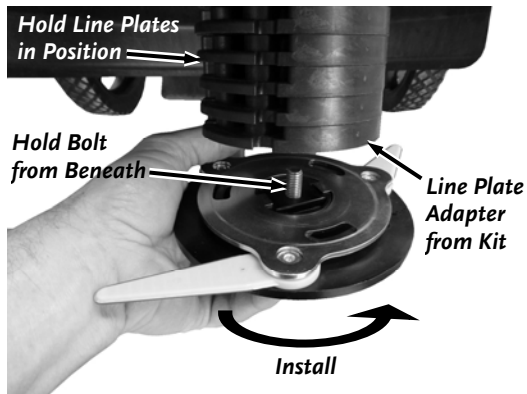

Figure 5
7. Remove the existing bottom Line Plate and install the Line Plate Adapter from the Kit (**Figure 5**).